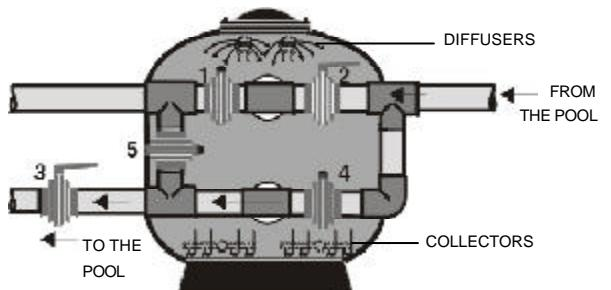

FIG.6
7. NORMAL WORKING CYCLE. (FIG.6)